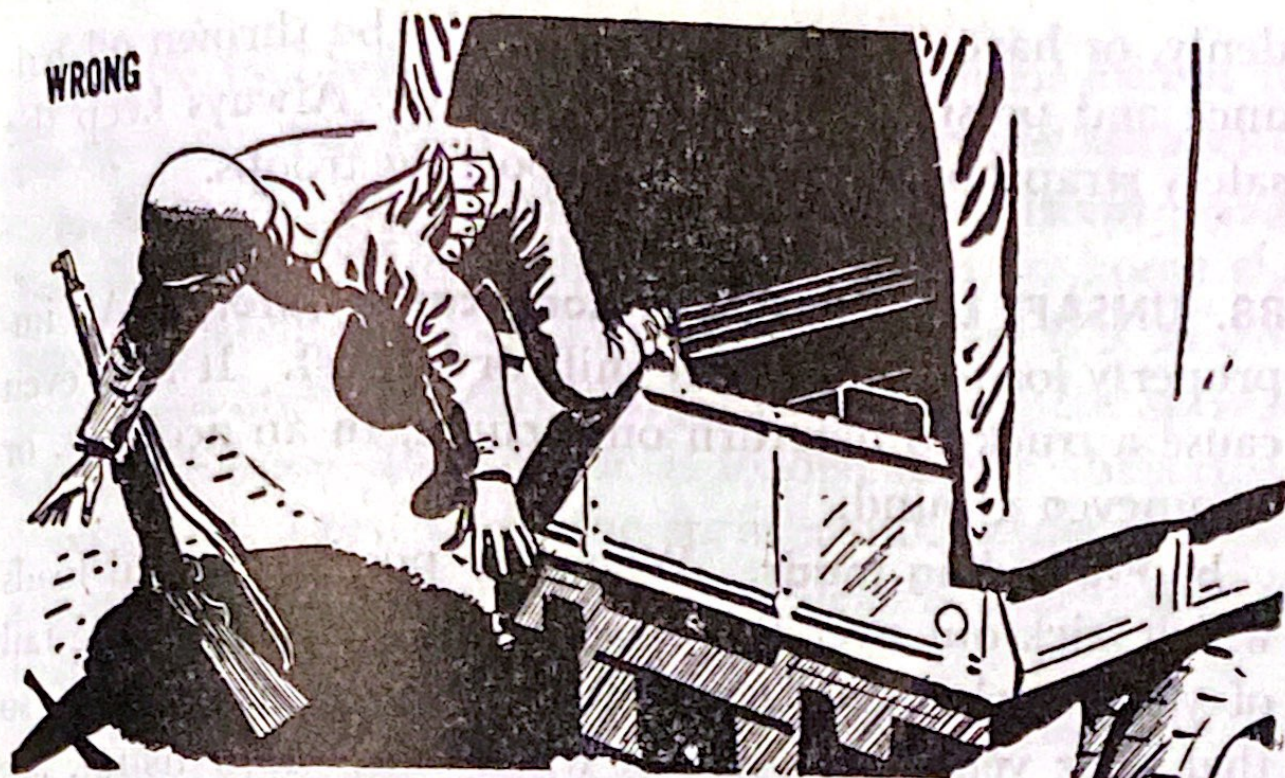

Figure 35. Open tail gate before allowing passengers to dismount.
d. Tail gate. When troops or other passengers are getting on a truck, or particularly when they are getting off, open the vehicle's tail gate so that they will be less likely to trip and fall (fig. 35). But don't leave it open. Your passengers or load will be safer if you close the tail gate before starting and so will the tail gate. Make it a practice to keep the tail gate opened while the vehicle is loading or unloading and closed while the vehicle is moving.